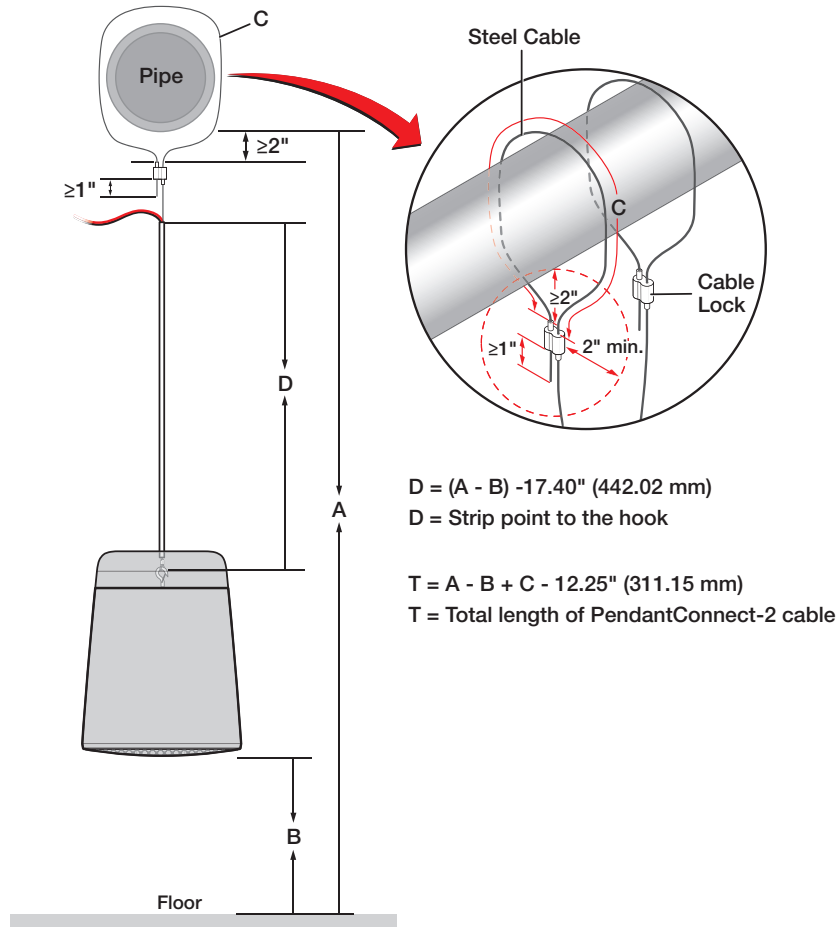

Figure 6. PendantConnect-2 Cable Cut Length
4. The total cable length, **T**, required (see figure 6 on the next page) is calculated as follows:
- The total cable length includes 1 inch of cable that must extend beyond the bottom of the cable lock (see figure 6 on the next page).